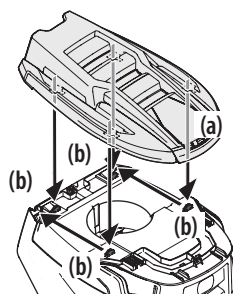

Figure 6
1. To install the snap-on hood topper (a), line up the holes on the hood topper (a) with the tabs (b) in the hood frame as shown in Figure 6.
2. Insert the tabs (b) into the hood topper and pull back to lock into place. See Figure 6.